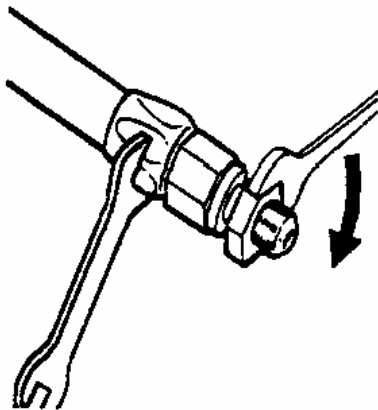

Figure 7. Nipple Assembly Adjustment
a. Determine hose length from WP 004 00: Figure 7 and Table 6.